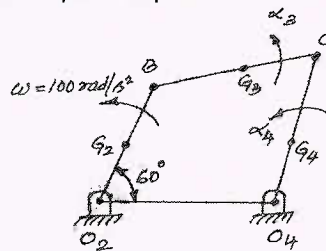

Fig. Q2 (b)
- b. A four bar mechanism shown in Fig. Q2 (b) has the following length of various links  $O_2O_4 = 800$  mm,  $O_2B = 330$  mm,  $BC = 500$  mm,  $O_4C = 400$  mm,  $O_2G_2 = 200$  mm,  $BG_3 = 250$  mm,  $O_4G_4 = 200$  mm. The masses of links are  $m_2 = 2.2$  kg,  $m_3 = 2.5$  kg,  $m_4 = 2$  kg. The moment of inertia of links about their C.G are  $I_2 = 0.05$  kg-m2,  $I_3 = 0.07$  kg-m2. The crank  $O_2B$  rotates at  $100$  rad/s2. Neglecting gravity effects, determine the forces in the joints and the input torque. (12 Marks)